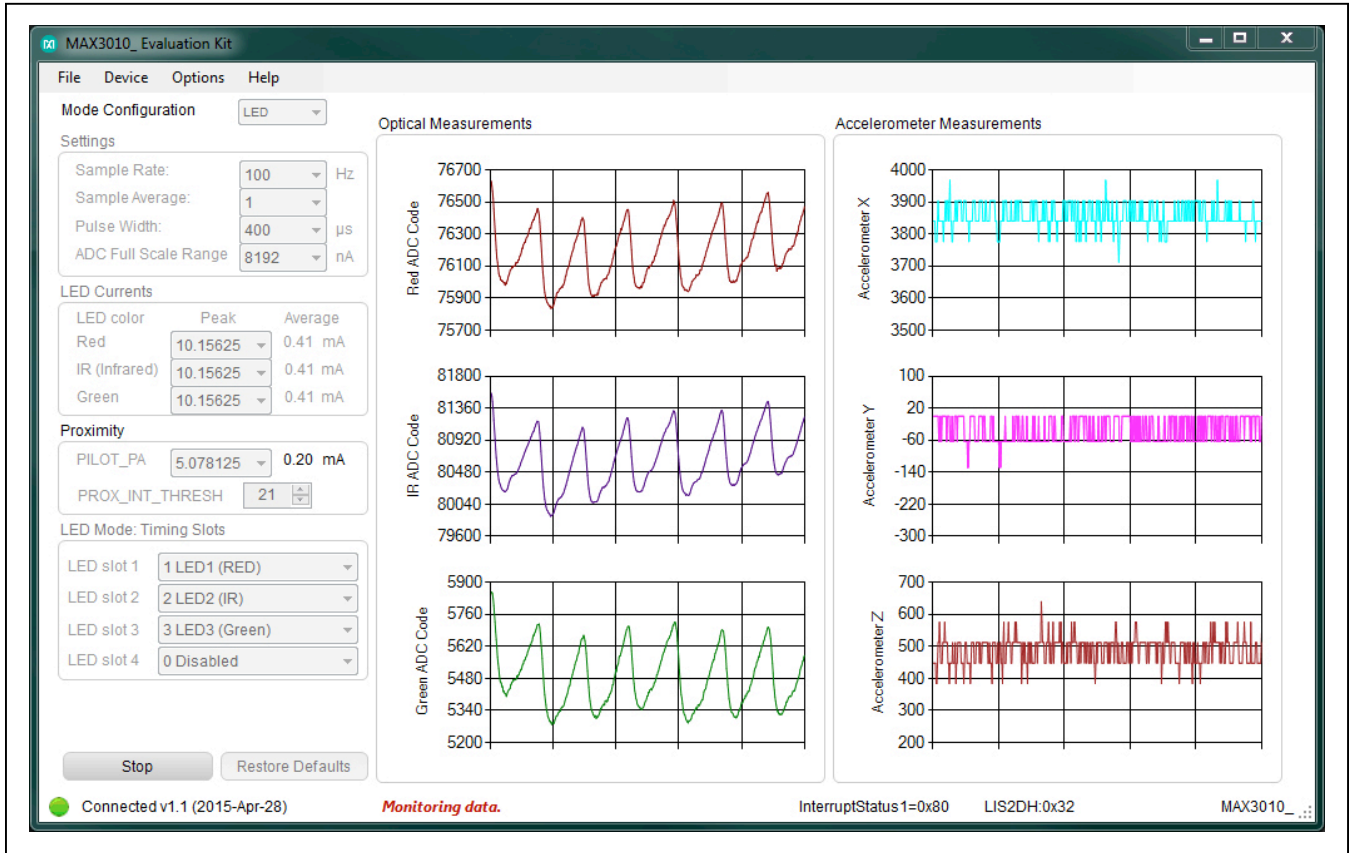

Figure 2. MAX30105 EV Kit Main Window (Sampling Data)
- 7) Place your finger in front of the MAX30105 (U4) of the EV kit and observe the **Measurement** graphs. See Figure 2.